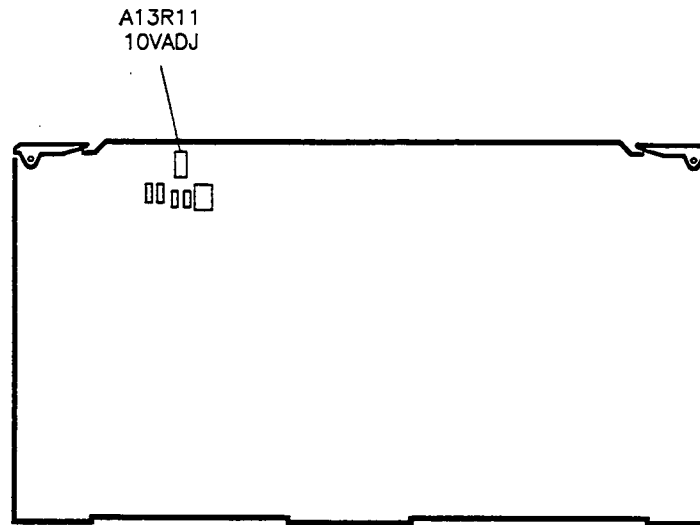

Figure 3-11. YO Driver +10V Reference Adjustment Location
4. Adjust A13R11 (see figure 3-11) to center the "needle" on the display.